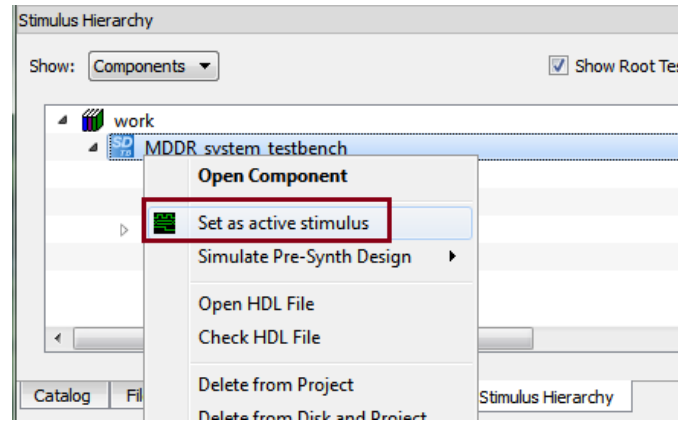

Figure 30. Setting a testbench as Active testbench
2. If not already set, right-click the **MDDR_system_testbench** and select **Set as active stimulus**, as shown in Figure 30.